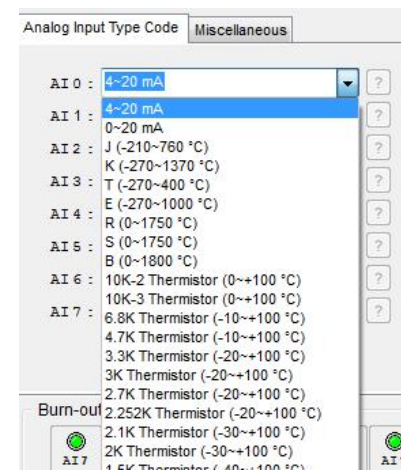

Figure2
- 5) If you need to set up **the Analog input mode**, please refer to the below **figure 2** After the setup is finished, click the “update” button.